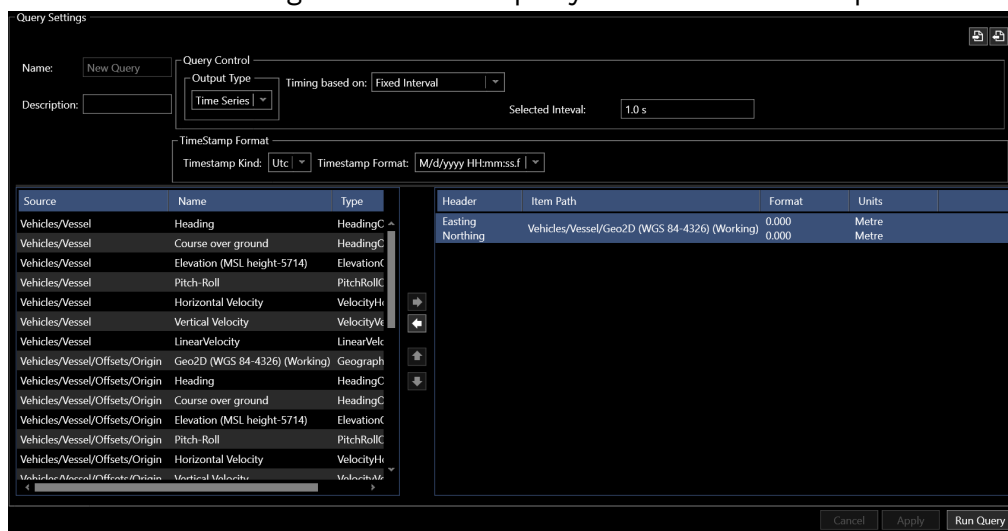

FIGURE 14-80 DATA RECORDING - DATA QUERY - QUERY SETTINGS
4. **Query Settings:** Once the start and end times and data sources are configured the query can be configured. The query settings panel is shown in Figure 14-80.